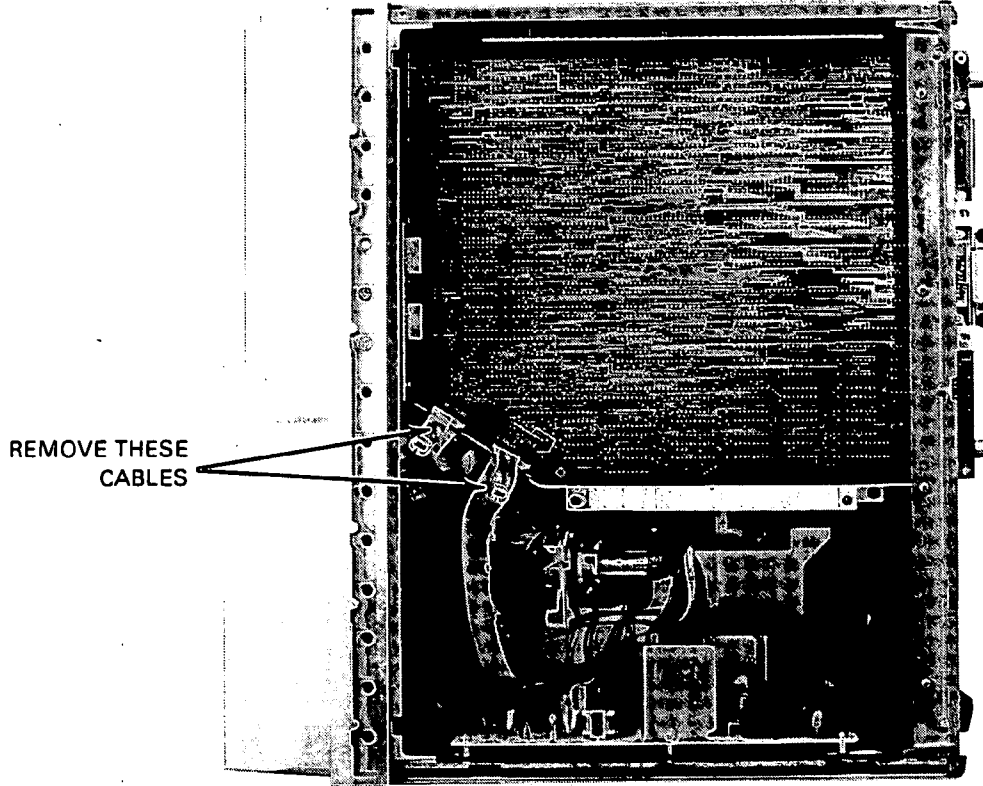

Figure 4
7. Refer to FIGURE 4 ... Disconnect the two cables that go to the CPU board.